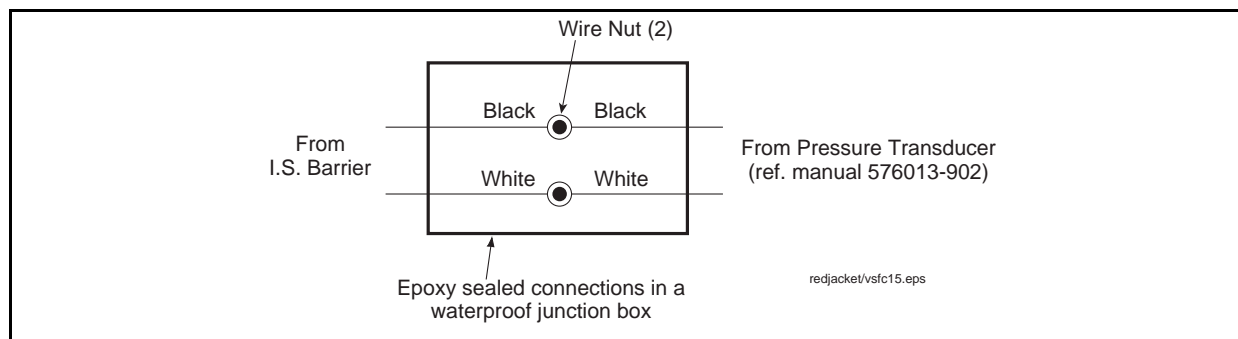

Figure 21. Connecting I.S. Barrier to Pressure Transducer
10. In the weatherproof junction box, connect the Pressure Transducer cable to the cable out of the top of the I.S. Barrier with wire nuts as shown in Figure 21.